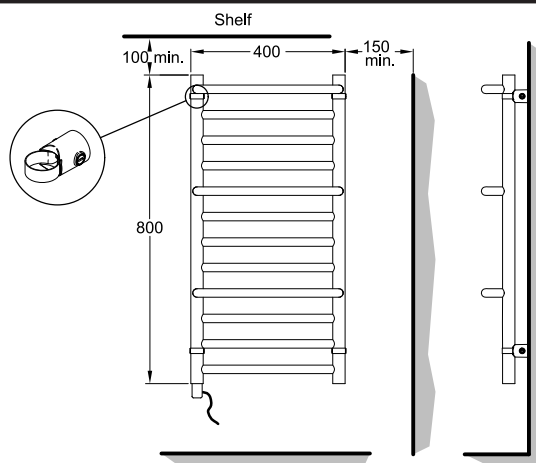
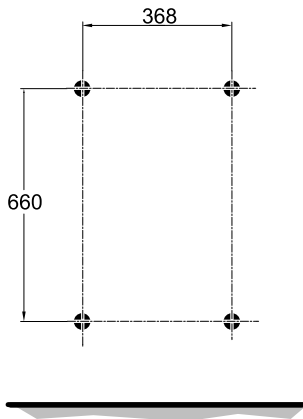
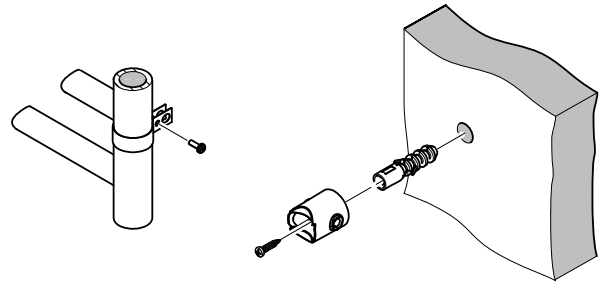

Fig. 1
Fig. 3
Fig. 4
**WARNING - to ensure safe/ correct operation the rail must only be mounted vertically as shown in Fig. 1, observing the minimum clearances stated.**
Mark suitable mounting hole positions for the fixing brackets (ensuring they are horizontal) - see Fig. 3, ensure to allow enough room above and below to maintain the minimum clearance stated in Fig. 1.
Drill and plug (x) the wall to suit. Fix the mounting brackets to the wall using the screws provided (y). Ensure the bracket pin holes are aligned horizontally to allow the mounting pins to be inserted through the collars - see Fig. 4.
Carefully place the four mounting collars around the towel rail uprights in the positions shown in Fig. 1 and secure in place using fixing screws (C) provided - see Fig. 4. ensure the rear of the straps are facing directly backwards.